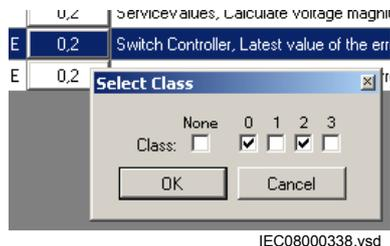

Figure 79: CMT: Select Class window
- Make the selection according to the definitions in the project and click *OK* to close the window and get the new configuration, see Figure 79.